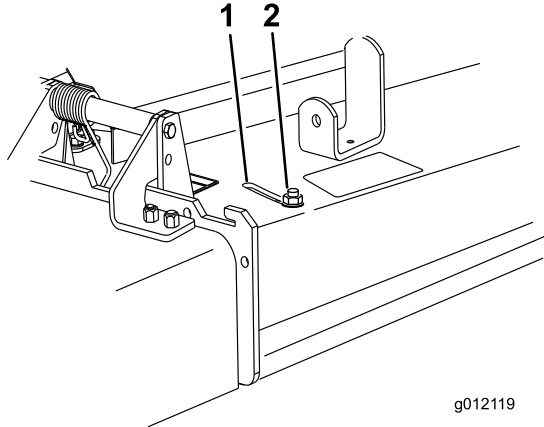

Figure 30
3. To adjust the baffle, loosen the nut (Figure 30).